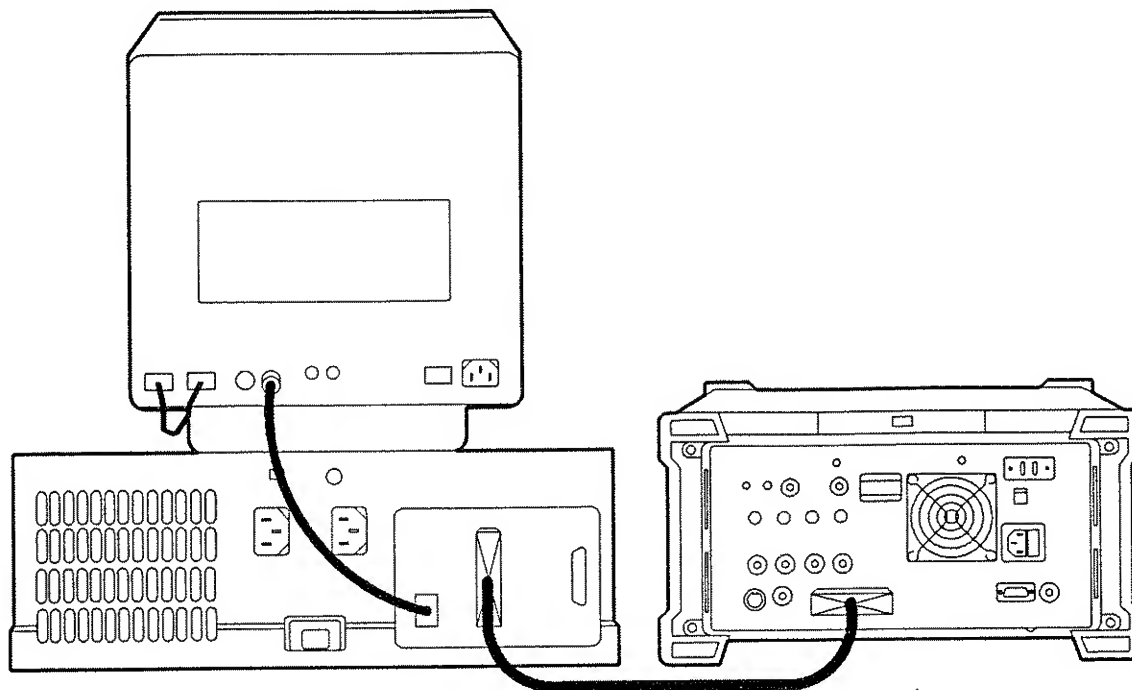

Figure 1-4. Connecting the HP Vectra Personal Computer to the Analyzer
1. Connect the spectrum analyzer to the computer using the RS-232 cable as shown in Figure 1-4.